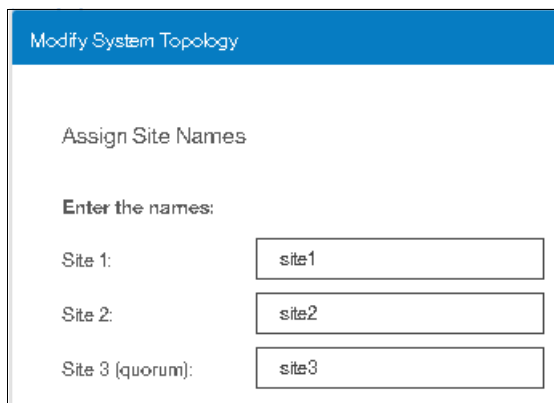

Figure 6-13 Assign site names
2. Assign the site names (Figure 6-13).